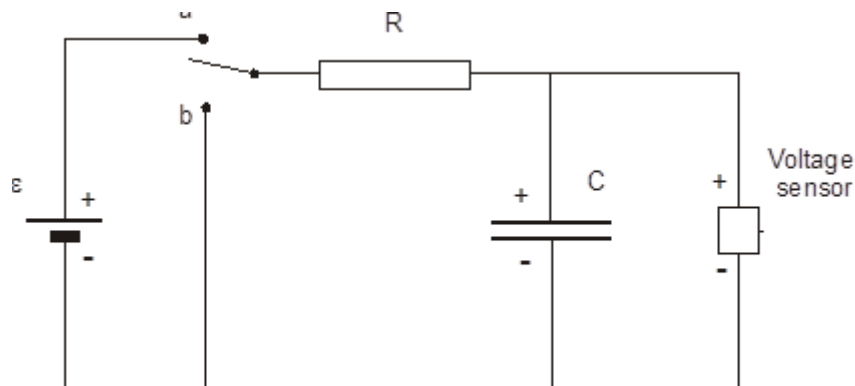

Figure 2
1. Move the switch to the “b” position (see Figure 2) and wait a few seconds for the capacitor to be completely discharged.